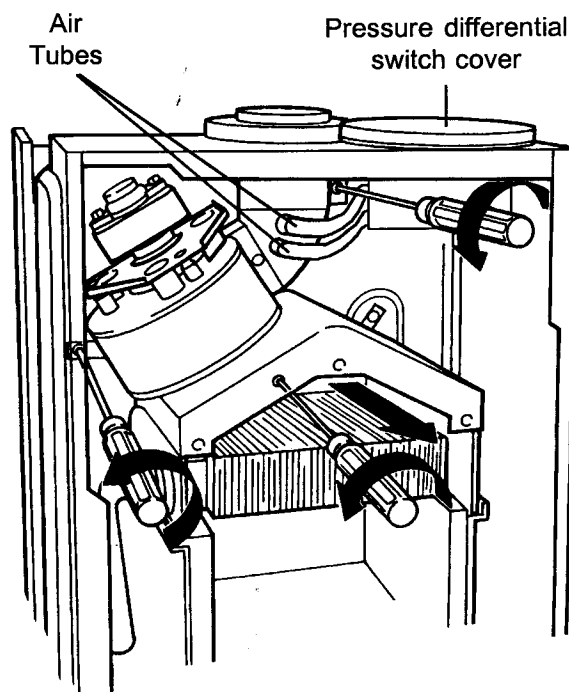

Fig. 29
- 8.9.4 Unscrew maintenance clip securing screws and remove clip (fig. 29)
- 8.9.6 Remove 3 flue hood retaining screws. fig. 29 Remove 2 air deflector plates (20/70 SE only)
Part No 8195 Refer to fig. 29
- 8.10.3 Remove 5 screws on pressure differential switch cover (fig. 29) and remove cover.